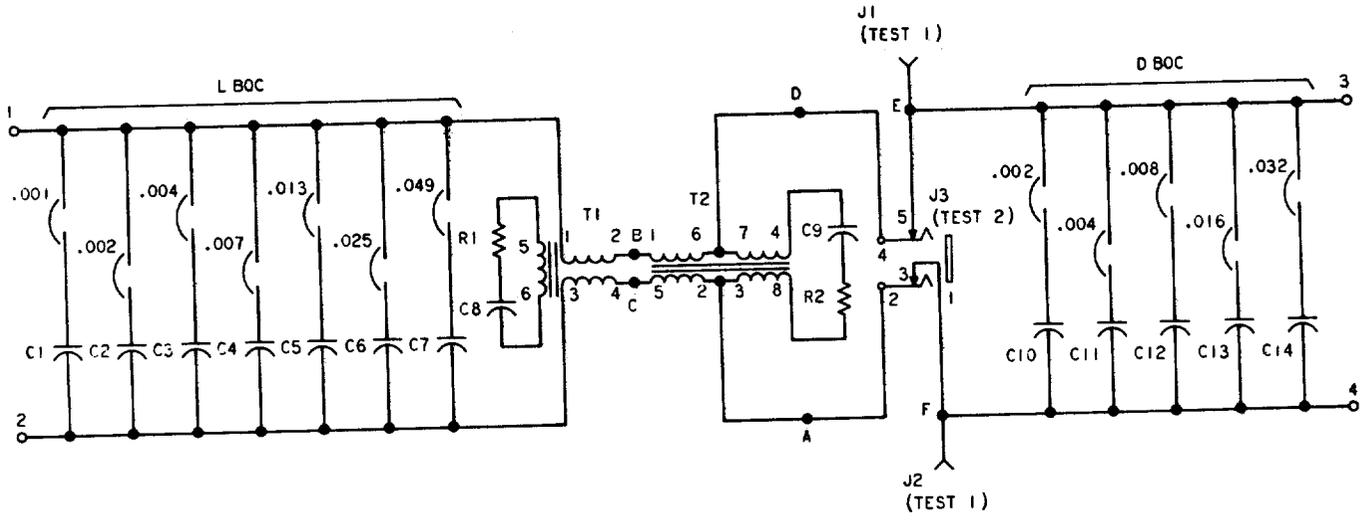

Fig. 2—Schematic—837F Network
3.01 The circuit arrangement of the 837F network is shown in Fig. 2. Terminals 1 and 2 connect to the cable and terminals 3 and 4 connect to the trunk circuit.